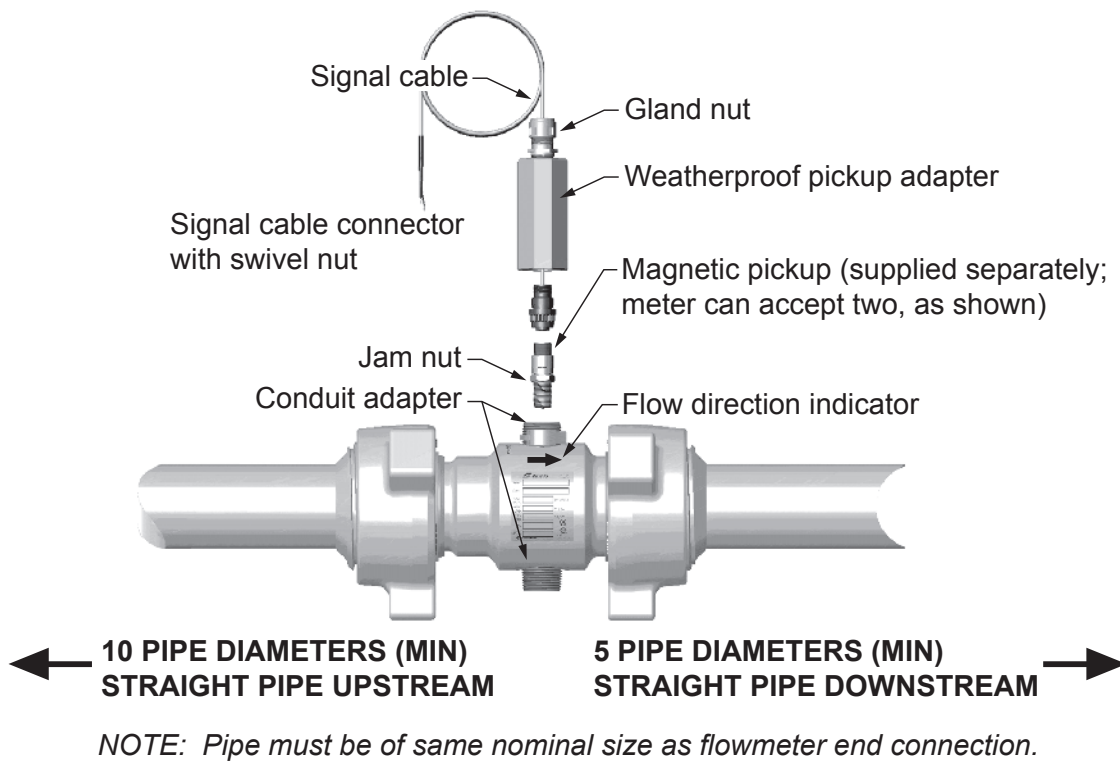

Figure 3—Installation of magnetic pickup
4. Install the magnetic pickup as follows, referencing Figure 3 as needed:
1. Observe the arrows cast or engraved on each part, indicating the direction of flow. When the meter is assembled, these arrowheads and the arrow engraved on the meter body (see flow direction indicator in Figure 3, page 7) must point in the direction that product will flow through the meter.